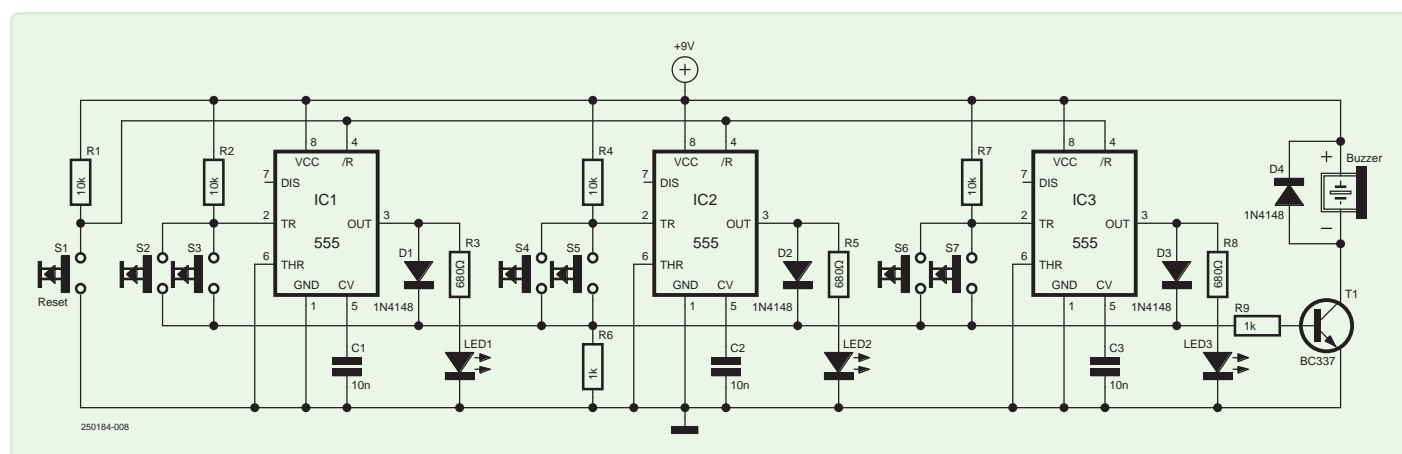

Figure 9: Circuit diagram for the three-group project.
**Figure 9** shows the project circuit diagram. As in the previous project, the quizmaster resets the circuit by pressing the Reset button. ◀